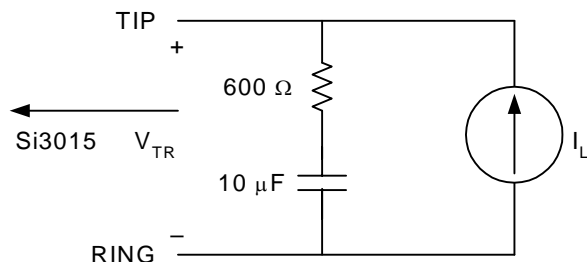

Figure 1. Test Circuit for Loop Characteristics
**Table 2. Loop Characteristics** $(V_D = 3.0$  to  $5.25$  V,  $T_A = 0$  to  $70^\circ\text{C}$  for K-Grade and  $-40$  to  $85^\circ\text{C}$  for B-Grade, See Figure 1)